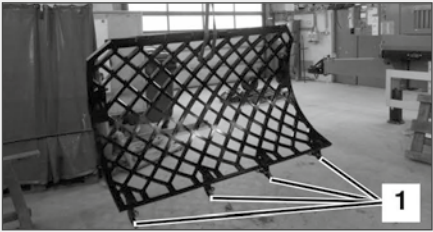

Fig. 4: Attached replaceable rear basket grid
5. Fasten the hoist to the prepared replaceable rear basket grid so that the hooks with the weld nuts (fig. 4/1) face downwards when lifting the replaceable rear basket grid.